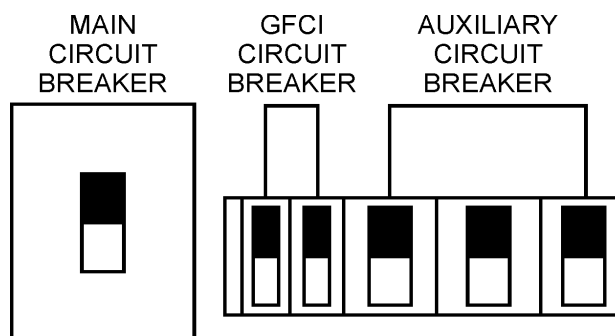

Figure 54. Main, AUX. and GFCI Circuit Breakers (ON)
14. Turn the **main**, **GFCI**, and **aux.** circuit breakers to the **ON** position (Figure 54).